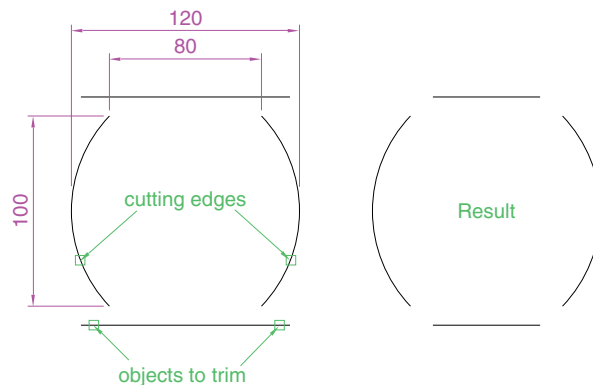

Fig. 5.32 Second example – **Trim**
Second example – Trim (Fig. 5.32)
- Construct the left-hand drawing of Fig. 5.32.
- Repeat for the other required trims. The result is given in Fig. 5.32.